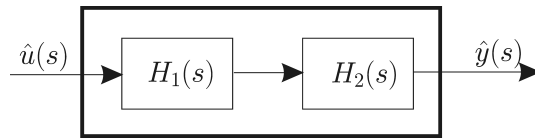

Figure 4.3: Two systems in series
1) Let us consider two systems of transfer functions  $H_1(s)$  and  $H_2(s)$  placed in series as shown on Figure 4.3.